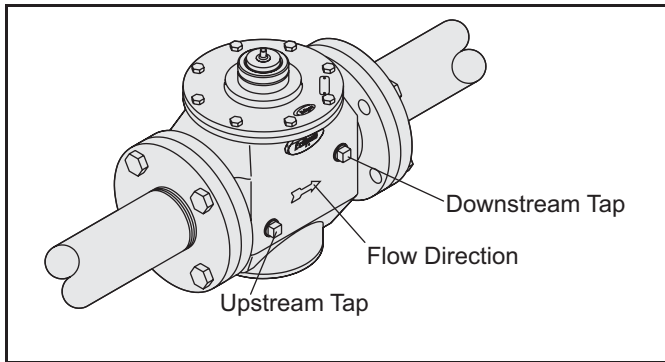
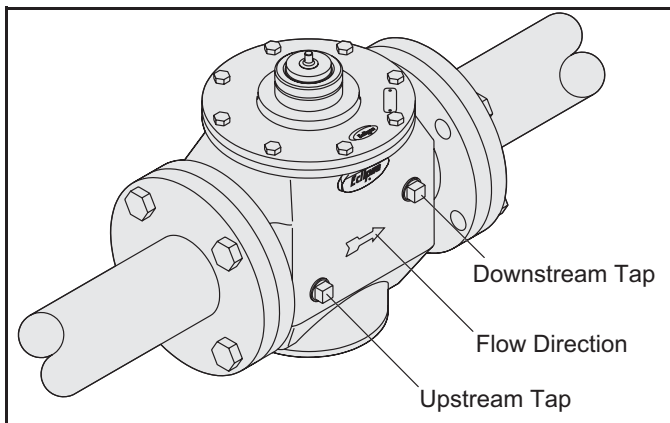

Figure 2.2
Figure 2.3
4. Diagrams noting the external connections to the actuator are located on the backside of the actuator nameplate and shown in Figure 2.2.
6. The position indicator switches are shown in Figure 2.2. For a typical combustion system wiring diagram, see Figure 2.3.